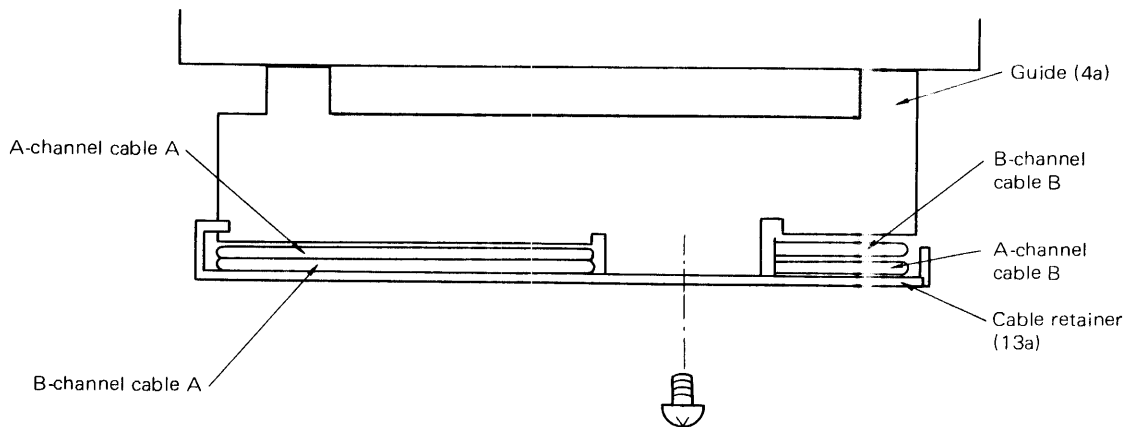

Figure 3-5-18 Dual Channel Interface Cables Holding
If an optional fan unit is used, fix cables (A) and (B) at the upper section of the fan unit, (as shown in Figure 3-5-18) using the fan cover/strain relief.